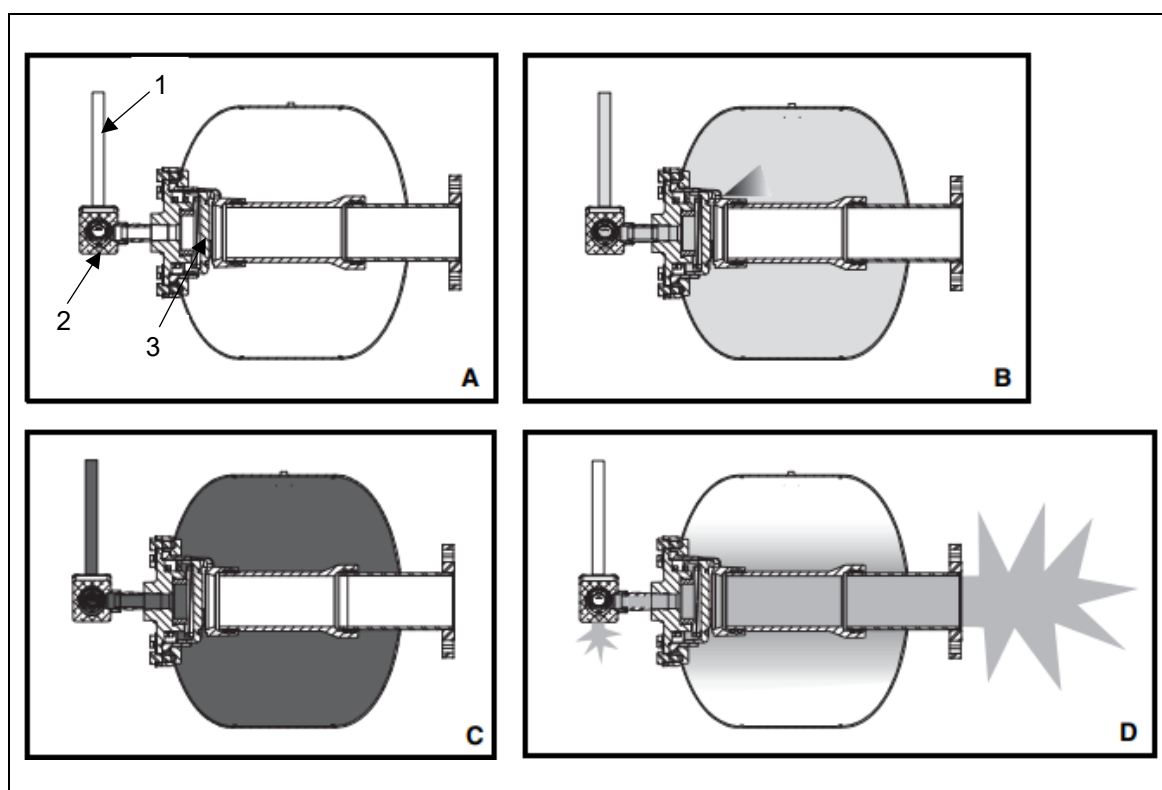

Figure 1: Functional principle of the Air Cannon
The Martin® Typhoon Air Cannon System consists of one or more Air Cannons mounted on a storage vessel. The Air Cannon charges when the tank is filled with plant compressed air or nitrogen between 3 bar and 8,6 bar (A, Figure 1) that is controlled by a 3-way normally open solenoid valve. Air fed through the valve assembly-mounted quick exhaust valve (QEV) passes through the piston and into the tank (B). When tank pressure equals line pressure, airflow is static and the cannon is ready to discharge (C). By activating the solenoid valve, the air supply is shut off and the air line between the QEV and solenoid is emptied. This allows the QEV to quickly release the pressure holding the piston. The piston is instantly forced back by the pressure stored in the tank which then exits through the discharge pipe, releasing the energized air pressure stored in the tank. This blast of air is directed through the discharge pipe and into the storage vessel (D).